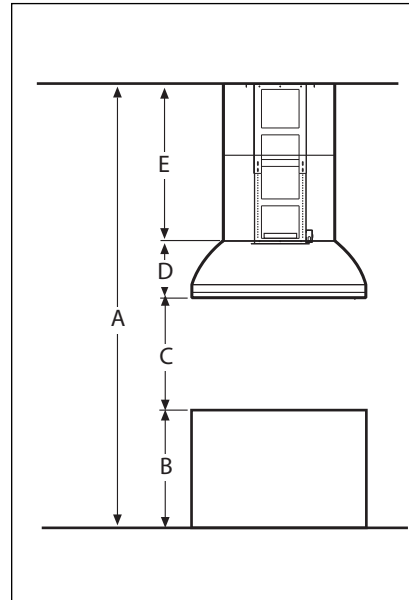

FIG.1
A typical hood installation is shown below in Figure 1. When installed with the IVCK chimney accessory kit, the hood can be installed at a height of 30" to 36" in kitchens with ceiling heights ranging from 8-1/2 to 10 feet. Installations outside this range will require custom framing. Consult a qualified installer for a custom framing solution.
See Figure 1.
See Fig. 1. Do not use duct smaller than specified.
4. Install 1/2" electrical conduit in location marked on template and extend length E minus 3-1/8" (E - 3-1/8") from ceiling (use formula in Fig. 1).